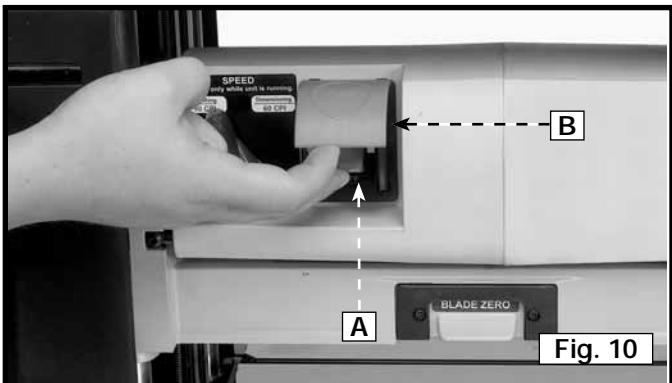

Fig. 10
The on/off switch Fig. 10 is located on the front of the planer motor. To turn the machine "ON", move the switch (A) up to the "ON" position. To turn the machine "OFF", push down on the switch shield (B) Fig. 10.